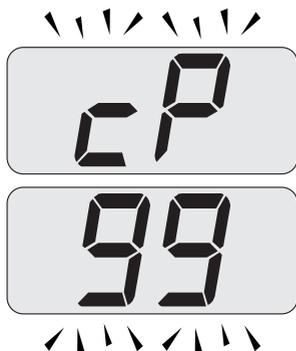

Fig. 9.21
- Press key 13 to vary the output in chimney sweep mode: when the LCD display displays the letters **hP** that alternate with the heating water temperature value (e.g. **99**), the "chimney sweep function" is at maximum (eventually range rated) output in heating mode (Fig. 9.21);